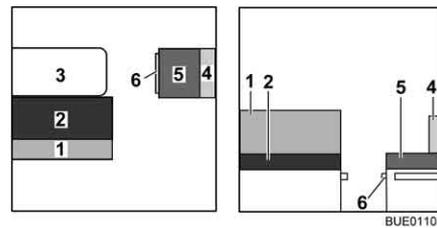
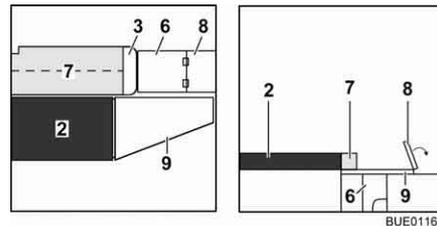

Fig. 134 Prior to conversion
Fig. 135 During conversion
- Convert the table (Fig. 134,3) to a bed foundation (see section 6.11).
- Remove the back cushion (Fig. 134,1) and lay it aside.
- ▷ Depending on the model, the back cushion (Fig. 134,1) can be used instead of the additional cushion (Fig. 135,7).
- Remove the back cushion (Fig. 134,4) and the seat cushion (Fig. 134,5) and lay them aside.
- Pull out the bedding box extension (Fig. 135,6).
- Fold the seat base extension (Fig. 135,8) outwards.
- Unfold the additional cushion (Fig. 135,7) and lay it on the table.
- Hook the bed widening (Fig. 135,9) into the recesses on the bench seats.